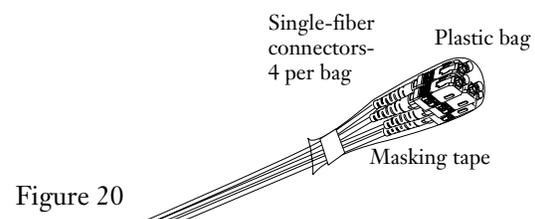

Figure 20
- For single-fiber connectors, place 4 connectors in each bag (Figure 20).